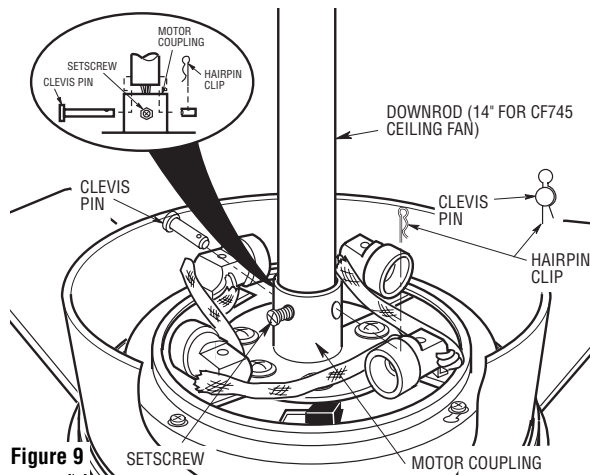

Figure 9
- 10. Separate, untwist and unkink the three 80" motor leads. Route the motor lead wires through the downrod. Remove the upper setscrew from the motor coupling. Align the clevis pin holes in the downrod with the holes in the motor coupling. Install the clevis pin and secure with the hairpin clip (Figure 9). The clevis pin must go through the holes in the motor coupling and the holes in the downrod. Be sure to push the straight leg of the hairpin clip through the hole near the end of the clevis pin until the curved portion of the hairpin clip snaps around the clevis pin. The hairpin clip must be properly installed to prevent the clevis pin from working loose. Pull on the downrod to make sure the clevis pin is properly installed. Reinstall the upper setscrew in the motor coupling. Check that the lower setscrew is tightened securely (Figure 9).